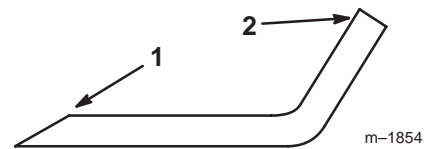
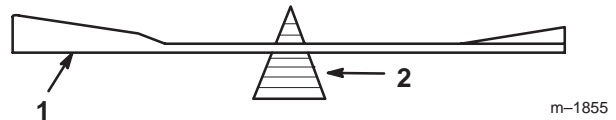

Figure 25
Figure 26
1. Use a file to sharpen the cutting edge at both ends of the blade (Fig. 25). Maintain the original angle. The blade retains its balance if the same amount of material is removed from both cutting edges.
2. Check the balance of the blade by putting it on a blade balancer (Fig. 26). If the blade stays in a horizontal position, the blade is balanced and can be used. If the blade is not balanced, file some metal off the end of the sail area only (Fig. 25). Repeat this step until the blade is balanced.